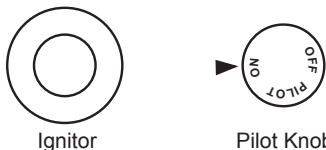

Figure 22 - Pilot Knob In The ON Position
6. Press in pilot knob and turn control knob counterclockwise ↻ to the PILOT position. Keep pilot knob pressed in for five (5) seconds (see Figure 22).